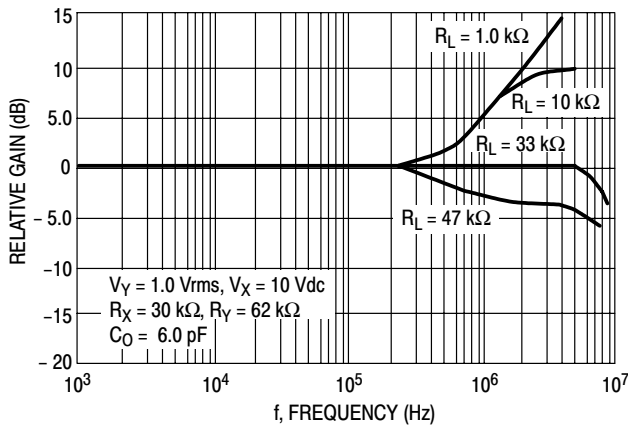
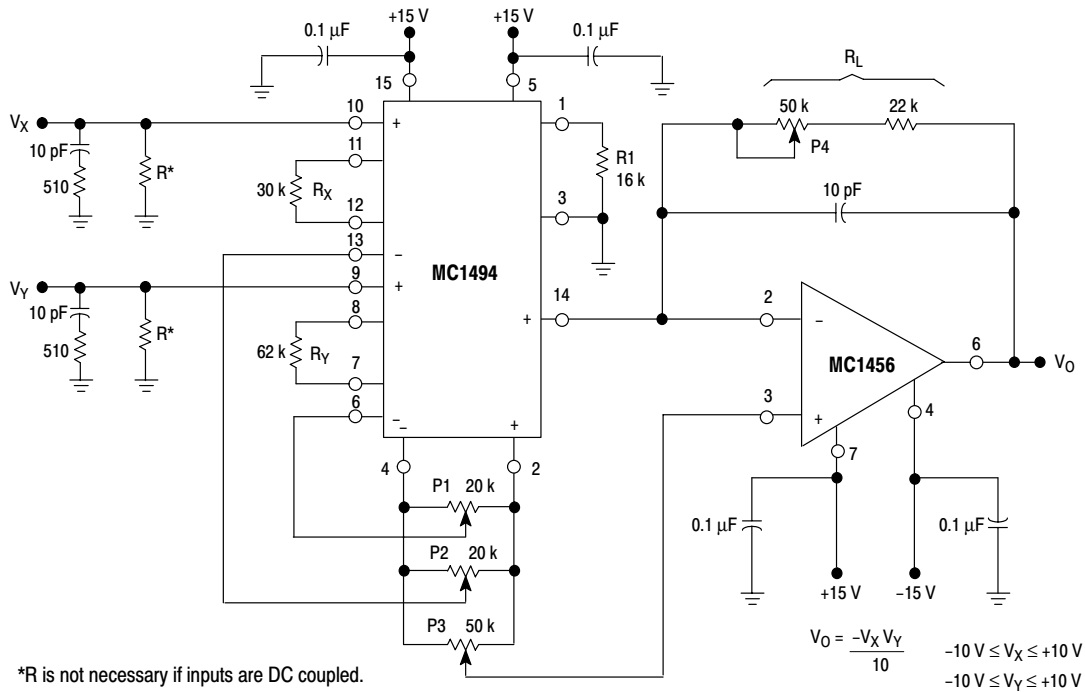
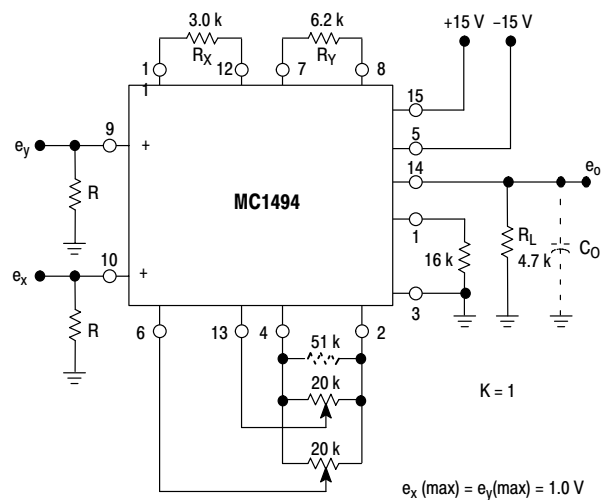

Figure 11. Frequency Response of Y Input versus Load Resistance
Figure 18. Typical Multiplier Connection
Figure 19. Wideband Multiplier
The output current can be easily converted to an output voltage by placing a load resistor R_L from the output (Pin 14) to ground (Figure 19) or by using an op amp as a current-to-voltage converter (Figure 18). The result in both circuits is that the output voltage is given by:
For low frequency operation the circuit of Figure 18 is recommended. For this circuit, $R_X = 30 \text{ k}\Omega$, $R_Y = 62 \text{ k}\Omega$, $R1 = 16 \text{ k}\Omega$ and, hence, $I_1 \approx 0.5 \text{ mA}$. Therefore, to set the scale factor (K) equal to 1/10, the value of R_L can be calculated to be:
Thus, a reasonable accuracy in scale factor can be achieved by making R_L a fixed 47 kΩ resistor. However, if it is desired that the scale factor be exact, R_L can be comprised of a fixed resistor and a potentiometer as shown in Figure 18.
The selection of R_L is arbitrary and can be chosen after resistors R_X and R_Y are found. Note in Figure 18 that R_Y is 62 k Ω while R_X is 30 k Ω . The reason for this is that the “Y” side of the multiplier exhibits a second order nonlinearity whereas the “X” side exhibits a simple nonlinearity. By making the R_Y resistor approximately twice the value of the R_X resistor, the linearity on both the “X” and “Y” sides are made equal. The selection of the R_X and R_Y resistor values is dependent upon the expected amplitude of V_X and V_Y inputs. To maintain a specified linearity, resistors R_X and R_Y should be selected according to the following equations:
The operational amplifier connection in Figure 18 is a simple but extremely accurate current-to-voltage
Since the MC1494 is capable of operation at much higher frequencies than the op amp, the frequency characteristics of the circuit in Figure 18 will be primarily dependent upon the operational amplifier.
The input offset adjustment potentiometers, P1 and P2 will be necessary for most applications where it is desirable to take advantage of the multiplier's excellent linearity characteristics. Depending upon the particular application, some of the potentiometers can be omitted (see Figures 19, 21, 24, 26 and 27).
The adjustment procedure for the circuit of Figure 18 is:
The MC1494 multiplier, like most linear ICs, requires a DC bias current into its input terminals. The device cannot be capacitively coupled at the input without regard for this bias current. If inputs V_X and V_Y are able to supply the small bias current ($\approx 0.5 \mu A$) resistors R can be omitted (see Figure 18). If the MC1494 is used in an AC mode of operation and capacitive coupling is used the value of resistor R can be any reasonable value up to 100 k Ω . For minimum noise and optimum temperature performance, the value of resistor R should be as low as practical.
When long leads are used on the inputs, oscillation may occur. In this event, an RC parasitic suppression network similar to the ones shown in Figure 18 should be connected directly to each input using short leads. The purpose of the network is to reduce the "Q" of the source–tuned circuits which cause the oscillation.
For AC operation, such as balanced modulation, frequency doubler, AGC, etc., the op amp will usually be omitted as well as the output offset adjust potentiometer. The output offset adjust potentiometer is omitted since the output will normally be AC coupled and the DC voltage at the output is of no concern providing it is close enough to zero volts that it will not cause clipping in the output waveform. Figure 19 shows a typical AC multiplier circuit with a scale factor $K \approx 1$. Again, resistor R_X and R_Y are chosen as outlined in the previous section, with R_L chosen to provide the required scale factor.
The bandwidth of the MC1494 is primarily determined by two factors. First, the dominant pole will be determined by the load resistor and the stray capacitance at the output terminal. For the circuit shown in Figure 19, assuming a total output capacitance (C_O) of 10 pF, the 3.0 dB bandwidth would be approximately 3.4 MHz. If the load resistor were 47 k Ω , the bandwidth would be approximately 340 kHz.
Secondly, a “zero” is present in the frequency response characteristic for both the “X” and “Y” inputs which causes the output signal to rise in amplitude at a 6.0 dB/octave slope at frequencies beyond the breakpoint of the “zero”. The “zero” is caused by the parasitic and substrate capacitance which is related to resistors R_X and R_Y and the transistors associated with them. The effect of these transmission “zeros” is seen in Figures 11 and 12. The reason for this increase in gain is due to the bypassing of R_X and R_Y at high frequencies. Since the R_Y resistor is approximately twice the value of the R_X resistor, the zero associated with the “Y” input will occur at approximately one octave below the zero associated with “X” input. For $R_X = 30$ k Ω and $R_Y = 62$ k Ω , the zeros occur at 1.5 MHz for the “X” input and 700 kHz for the “Y” input. These two measured breakpoints correspond to a shunt capacitance of about 3.5 pF. Thus, for the circuit of Figure 19, the “X” input zero and “Y” input zero will be at approximately 15 MHz and 7.0 MHz respectively.
From this brief discussion, it is evident that for AC applications; (1) the value of resistors R_X , R_Y and R_L should be kept as small as possible to achieve maximum frequency response, and (2) it is possible to select a load resistor R_L such that the dominant pole (R_L , C_O) cancels the input zero (R_X , 3.5 pF or R_Y , 3.5 pF) to give a flat amplitude characteristic with frequency. This is shown in Figures 11 and 12. Examination of the frequency characteristics of the “X” and “Y” inputs will demonstrate that for wideband